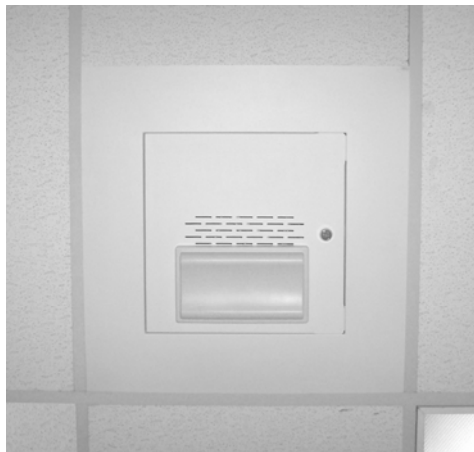

Figure 7
7. Once the enclosure and AP are installed, the AP is protected and hidden from view, in a solution that is flush with the ceiling tile (see Figure 7).